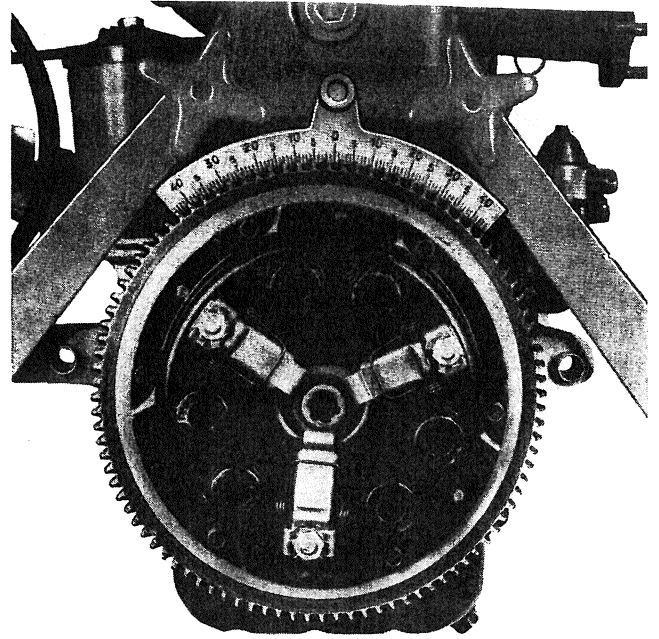

Fig. 131 - Graduated sector C. 661 installed for valve gear timing.
- Install graduated sector C. 661 (fig. 131).